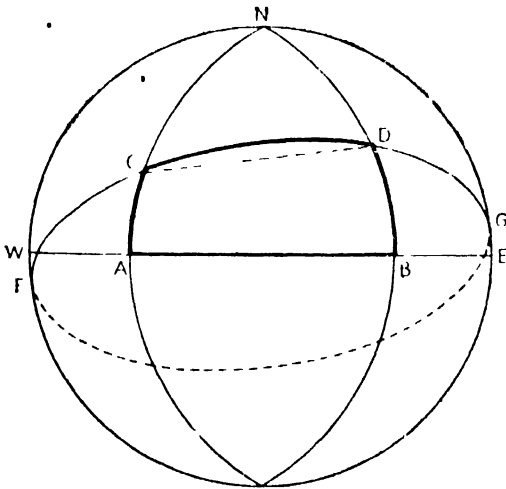

FIG. 3. GREAT CIRCLE AND PLANE SAILING
2. DEEP-SEA NAVIGATION, or astro-navigation, is the art of directing the ship's course out of sight of land, when the navigator must rely on observations of celestial bodies for obtaining a 'fix'. Once he knows his position he plots it on the chart, and then decides what course to steer. Where great distances are involved the curvature of the earth must be taken into account, and a course shaped so as to follow the 'great circle'. The navigator draws an imaginary line round the earth, passing through the ship's starting-point and destination. So long as the diameters of this circle pass through the centre of the earth it will show the shortest way between the two points (see Fig. 3). In coastal navigation, the short distances involved make this calculation unnecessary, and the navigator can treat the earth's surface as if it were flat.